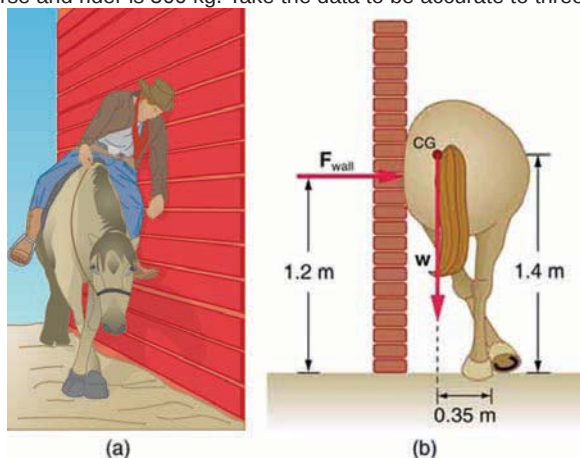

Figure 9.31
- Suppose a horse leans against a wall as in **Figure 9.31**. Calculate the force exerted on the wall assuming that force is horizontal while using the data in the schematic representation of the situation. Note that the force exerted on the wall is equal in magnitude and opposite in direction to the force exerted on the horse, keeping it in equilibrium. The total mass of the horse and rider is 500 kg. Take the data to be accurate to three digits.
- (a) Calculate the magnitude and direction of the force on each foot of the horse in **Figure 9.31** (two are on the ground), assuming the center of mass of the horse is midway between the feet. The total mass of the horse and rider is 500 kg. (b) What is the minimum coefficient of friction between the hooves and ground? Note that the force exerted by the wall is horizontal.